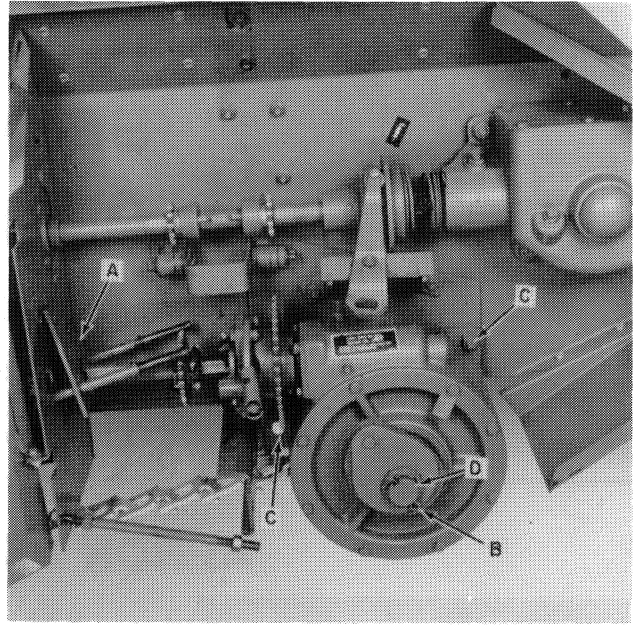

**FIGURE 3**
4. Remove shield, A, Figure 3, by removing the hardware at B.